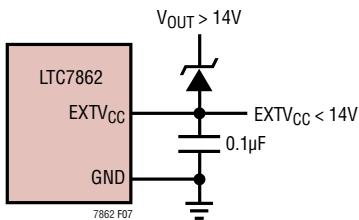

Figure 7. Using a Zener Diode Between V_{OUT} and EXTV_{CC}
4. EXTV_{CC} connected to the regulator output through an external zener diode. If the output voltage is greater than 14V, a zener diode can be used to drop the necessary voltage between V_{OUT} and EXTV_{CC} such that EXTV_{CC} remains below 14V (Figure 7). In this configuration, a bypass capacitor on EXTV_{CC} of at least 0.1 μF is recommended. An optional resistor between EXTV_{CC} and GND can be inserted to ensure adequate bias current through the Zener diode.